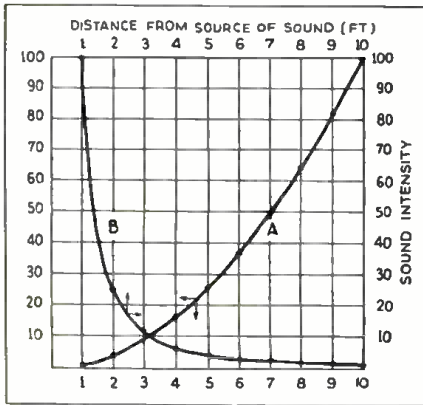
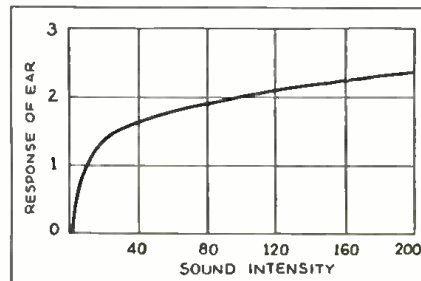

Fig. 2—Exponential figures plotted in two curves.
Fig. 3, left.—A problem of particular interest to Public Address men—the ear response.
**T**HE FIRST important consideration in plotting graphs—following the matter of graph construction discussed in Part I—is the choice of scales. These should be divided, if practicable, into decimal intervals, as, 0.1, 1, 10, 100, etc., units per inch or per major division on the cross-section paper. It is customary to use the abscissas, or horizontal distances from the origin for such concepts as time, distance, speed, or such units as are known or easily measured. The other units used in conjunction with these are scaled off on the axis of the ordinates. No hard and fast rules can be fixed in this regard and the choice between abscissas and ordinates for different scales and units depends to a great extent upon custom and common sense. We might venture to say that usually the cause is the abscissa and the effect is the ordinate. Oftentimes one alternative is as good as another. To illustrate these more or less indefinite rules let us look ahead to Figs. 2 and 3. In Fig. 2 the abscissa is used for distance, and in Fig. 3 the sound intensities (cause) are the abscissas and the responses of the ear (effect) are the ordinates.